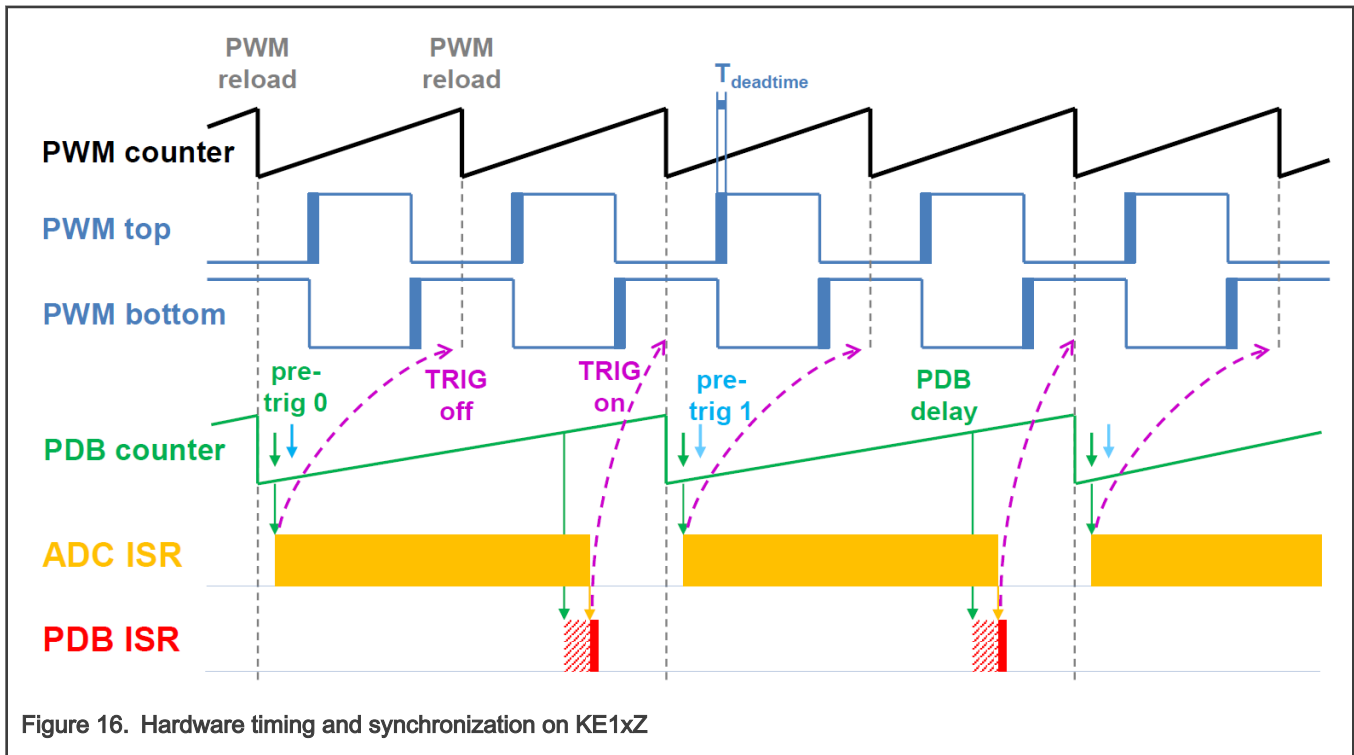

Figure 16. Hardware timing and synchronization on KE1xZ
A correct and precise timing is crucial in motor-control applications. The motor-control dedicated peripherals handle the timing and synchronization on the hardware layer. The timing diagram is shown in Figure 16.
- The PDB Delay interrupt is enabled. This interrupt is generated when the PDB_IDLY is reached. This interrupt enables the FTM_TRIG (see Figure 16).